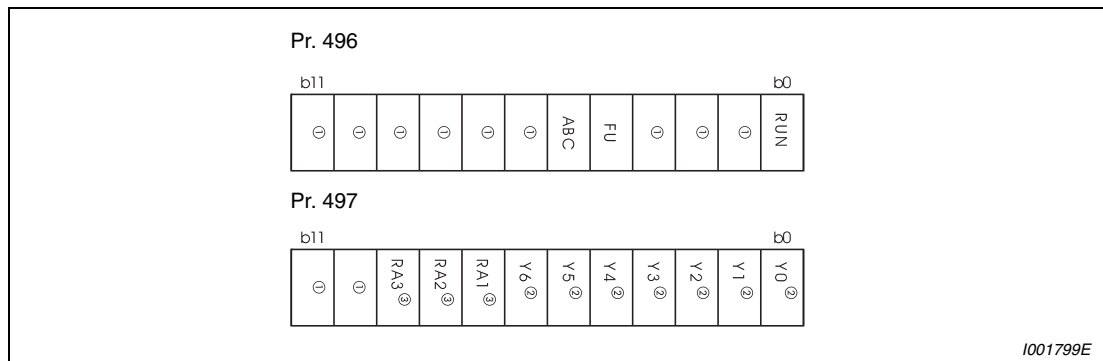

Fig. 6-65: Remote output data
| 496 | Remote output data 1 ^① | 0 | 0–4095 | Refer to Fig. 6-65 | | | |
When you refer to Fig. 6-65 and set "1" to the terminal bit (terminal where the REM signal has been assigned) of Pr. 496 or Pr. 497, the output terminal turns on (off for sink logic). By setting "0", the output terminal turns off (on for sink logic).